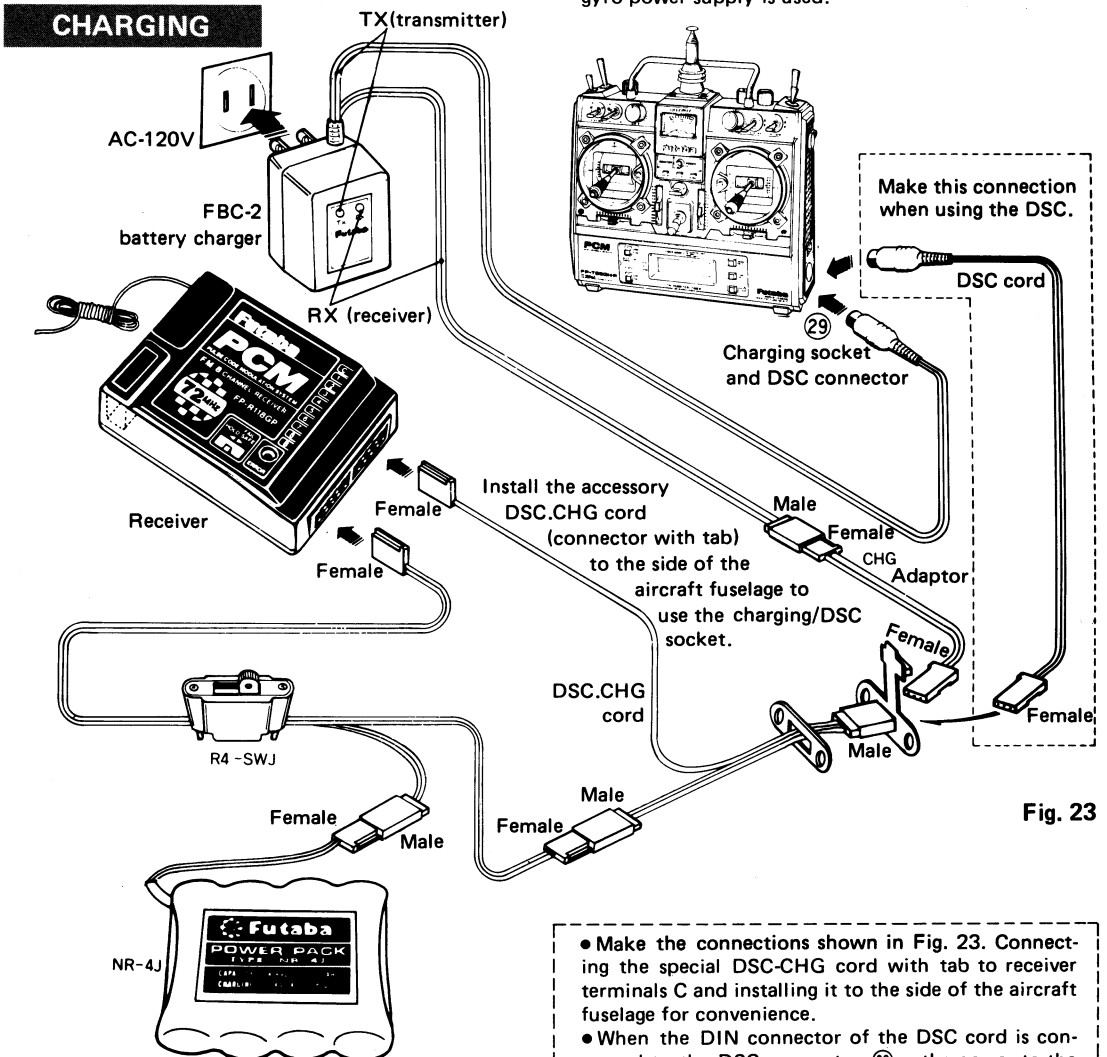

Fig. 23
• Connect the DIN connector of the FBC-2 charger to the transmitter charging connector and the 3P connector to the receiver/servo NR-4J battery, and plug the charger into a 120 VAC outlet as shown in Fig. 23. The charger Tx and Rx LEDs light to indicate that the battery is charging. The battery can also be charged through the DSC-CHG cord by installing the CHG adaptor to the charger as shown in Fig. 23. The NR-4J
• Make the connections shown in Fig. 23. Connecting the special DSC-CHG cord with tab to receiver terminals C and installing it to the side of the aircraft fuselage for convenience.